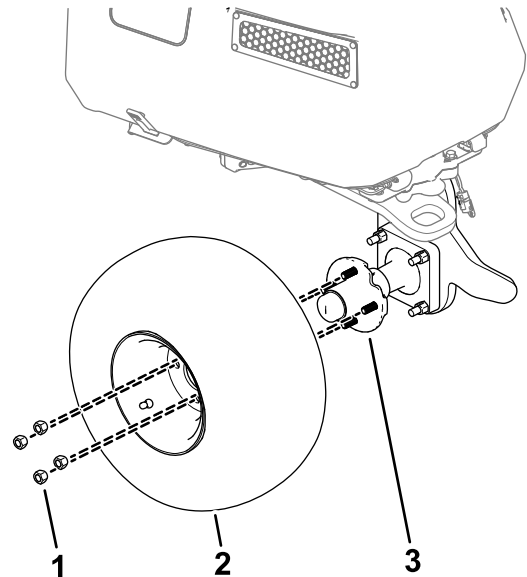

Figure 1
1. Remove the 4 lugnuts that secure the wheel to the wheel-hub assembly (Figure 1).
2. Remove the wheel from the machine (Figure 1).